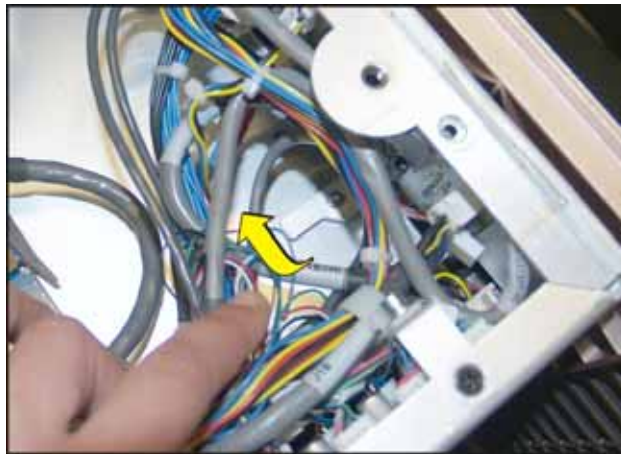

Figure 5-52 Spring Latch for Security Ring
5. Release the security ring by pushing the latch, located on the inside of the cardcage, to the right. (**Figure 5-52**) **NOTES: 1)** Marriage is broken when this latch is toggled. **2)** The security ring should only be removed by Christie authorized service technicians.